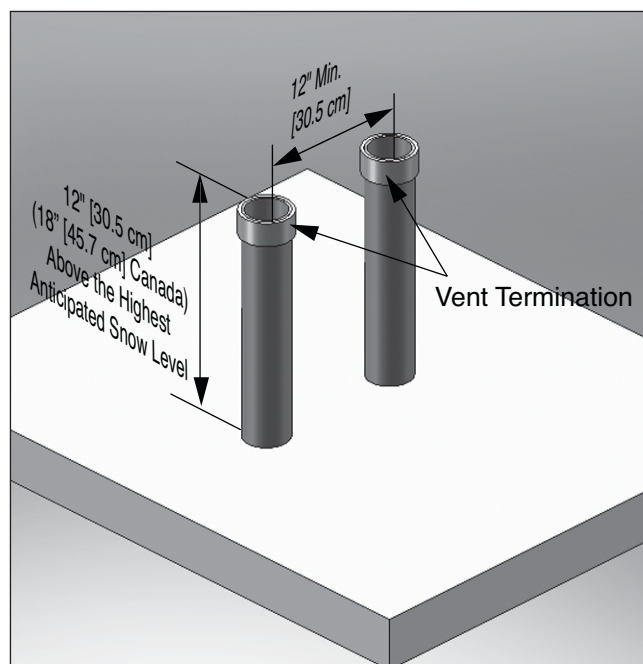

Fig. 16 - Category IV- Vertical Termination of Multiple HeatMaster TC Combination Boilers / Water Heaters
2. Each vent termination must be a minimum 12" [30.5 cm] from the adjacent termination for installations in the U.S. as shown in *Fig. 16 below*. For installations in Canada, provide clearances as required by CAN/CSA B149.1.